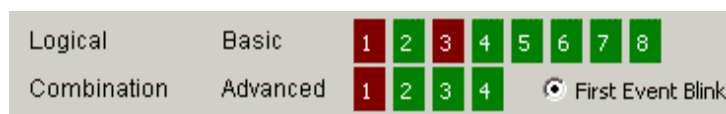

Figure 11-14: Fields concerning the basic and advanced logical combinations of alarms
- 4- Fields concerning the basic and advanced logical combinations of alarms (see Figure 11-14)
The MPC Outputs window shows the status of the 8 Basic and 4 Advanced logical combinations of alarms (Figure 11-14).
The feature is activated by clicking the **First Event Blink** button on the MPC Outputs window (see Figure 11-14).